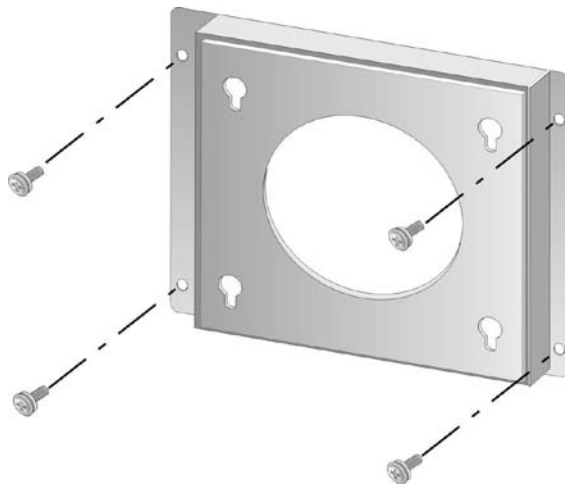

Figure 3-11: Wall-mounting Bracket
Step 5: Secure the mounting-bracket to the wall by inserting the retention screws into the four pilot holes and tightening them (**Figure 3-11**).